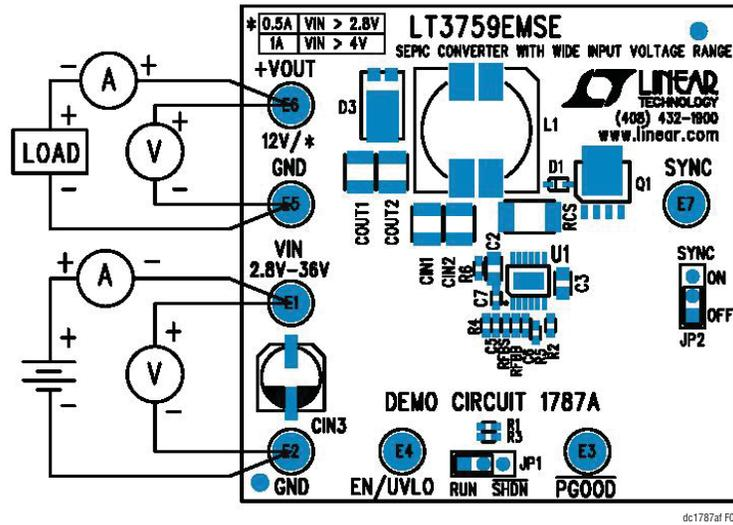

Figure 1. Proper Measurement Equipment Setup
Demo circuit 1787A is easy to set up to evaluate the performance of the LT3759. Refer to Figure 1 for proper measurement equipment setup and follow the procedure.
2. Connect load to the V_{OUT} (E6) and GND (E5) terminals on the demo circuit. Connect voltage and current meters as shown in Figure 1. Preset the load to 0.5A or less, and V_{IN} supply to be 0V.